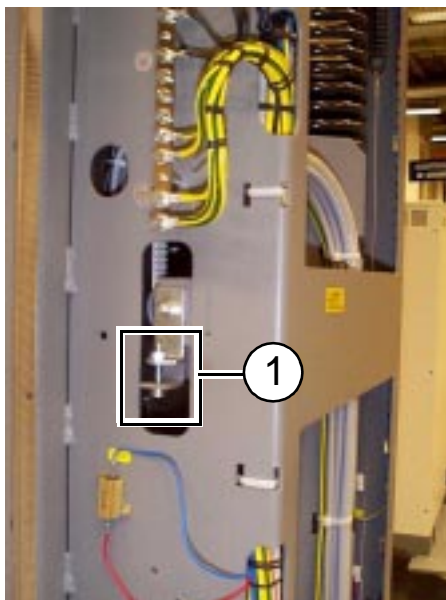

Fig. 1
16. Remove the strap that secures the lifting carriage (see Fig. 1, pos.1).
On newer MAMMOMATs the tension adjuster of the drive belt is placed on the side of the stand (see Fig. 1, pos.1). Refer to chapters "Replacing the lifting carriage motor M1-I" on Page 3 - 2 and "Replacing the drive belt-I" on Page 3 - 4.